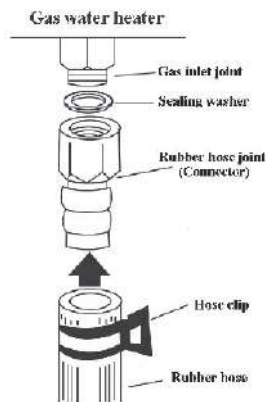

Fig. 7
- When using liquefied petroleum gas(LPG), first remove the Rubber hose joint(connector) from the accessory bag and connect it to the Gas inlet joint (▲ **Note:** be sure to install the sealing washer correctly in order). Then connect with a gas-only rubber hose with inner diameter of $\Phi 9.5\text{mm}$, one end into the outlet of the gas regulator valve of the LPG tank, one end inserted into the Gas inlet join of gas water heater, and tightened with the Hose clip(Fig7/8).